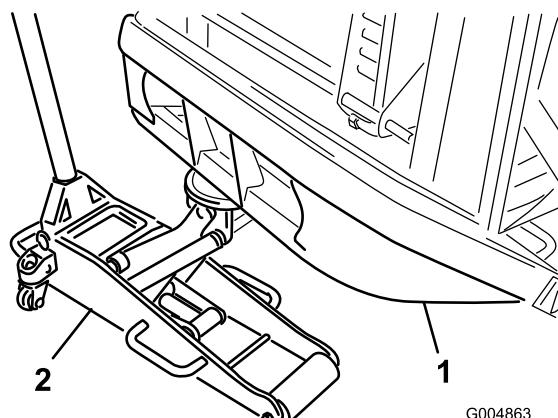

Figure 5
2. Place a jack stand under each wheel motor and a floor jack under the rear bumper (Figure 5), or suspend from a overhead hoist.